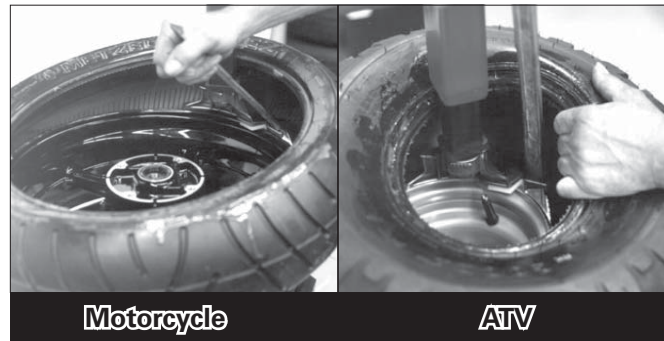

Figure 11 - Demounting Lower Bead
13. Lift and hold the tire at an angle so that the lower bead is resting in the drop center directly across from the demount tool, and is loose below the demount tool (Figure 11). Insert the smooth curved end of the bead lifting tool down over the forward end of the mount/demount tool and below the lower bead. Lift the bead up and over the knob on the demount tool (Figure 11).